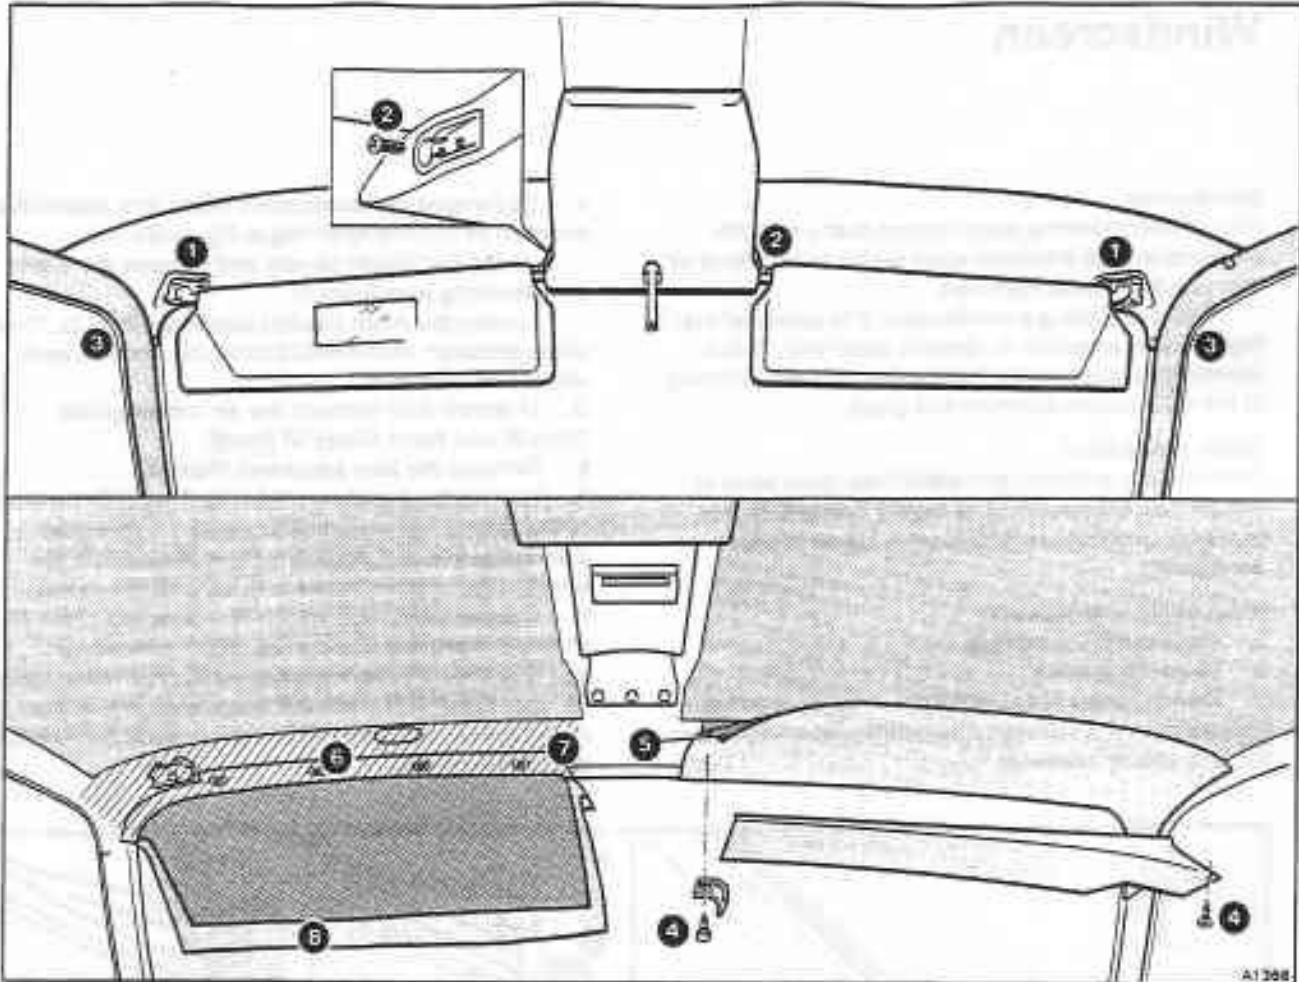
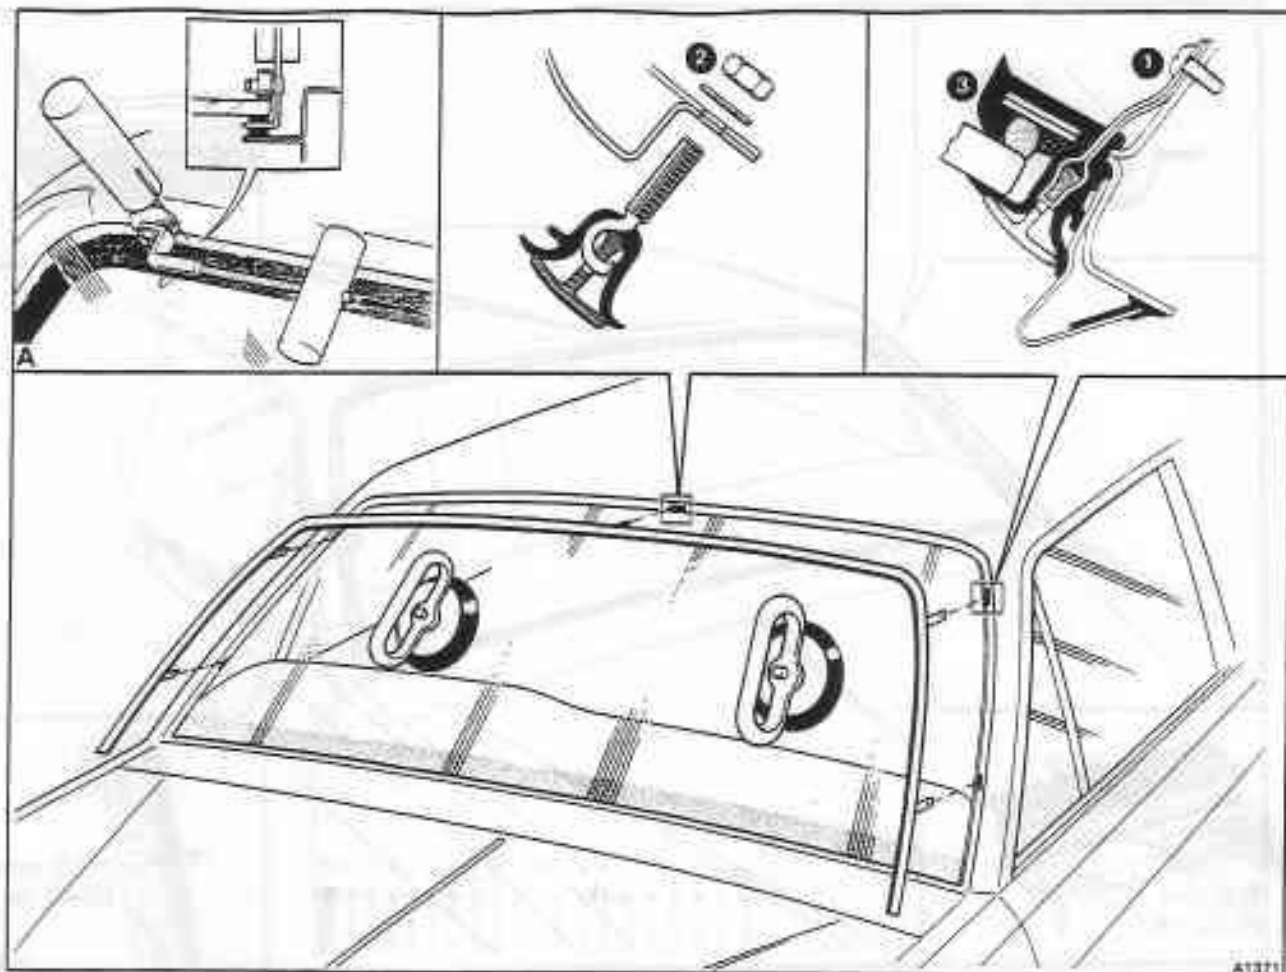

Fig. S8-2 Windscreen interior trim
Fig. S8-3 Windscreen sealing arrangement
10. Pull the sun visors from their inboard retaining clips. Release the screws and remove the sun visors (see fig. S8-2, item 1).
11. Remove the screws (item 2). Slide back the centre header trim panel and release the Lucar connector (if fitted) from the passenger side visor retaining clip. Remove the trim panel.
13. Unclip and remove the 'A' post/cantrail trim panel (item 3).
14. Release the screws (item 4) and remove the visor clip retaining brackets and header trim panels.
15. Carefully separate the glued edge of the header trim cloth and foam (item 5) from the headlining material. Remove the exposed self-tapping screws and washers (item 6), then remove the header trim pieces.
windscreen finisher retention plates to the 'A' post panels (see fig. S8-3, item 1). Also, remove the nut and washer (item 2) from the finisher retention hook situated in the centre of the upper windscreen flange.
19. From inside the car, peel back and remove the spacing/finisher seal (item 3) from around the windscreen aperture flange.
From outside the car, insert the blade of the tool through the sealing compound and behind the glass (see fig. S8-3, inset A).
16. To fit the header trim pieces proceed as follows referring to figure S8-2.